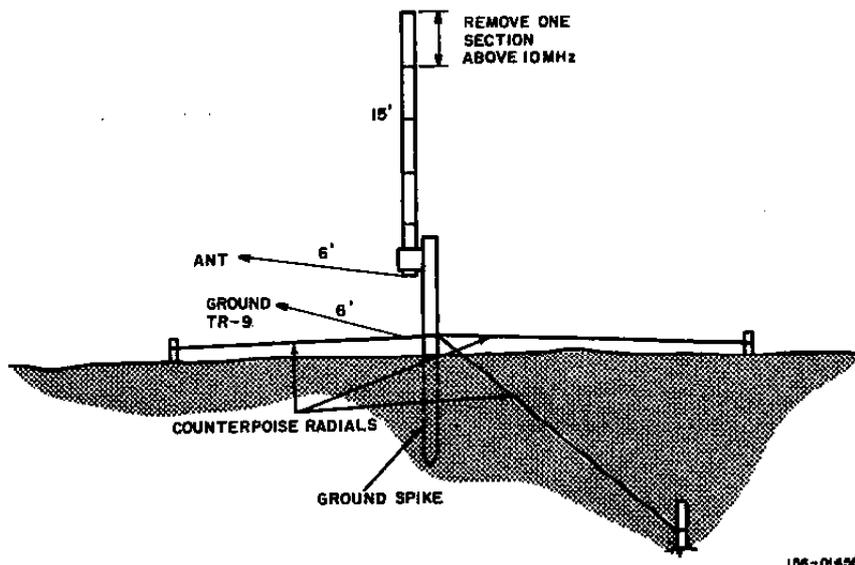

Figure 4-2. Fifteen-Foot Whip Antenna Installation.
**4-9. FIFTEEN-FOOT WHIP ANTENNA.** The whip antenna consists of a 15-foot whip, 6 feet of lead-in wire, and a counterpoise system. The antenna can be broken-down into lengths of 3-3/4 feet for easy transportation. The full 15-foot whip is used from 2 MHz to 10 MHz. One section is removed from the antenna above 10 MHz (see figure 4-2). Connect the antenna lead-in wire to the ANT terminal, and the counterpoise ground wire to the GROUND terminal. Operate the transmitter in the PH (phone) condition. To tune the antenna to the transceiver, ANT TUNE 2 switch S4 is set to position 2. ANT TUNE 1 control is then rotated to give a minimum reading on the meter when BAT/OPER/TUNE switch is in TUNE position. Press the microphone push-to-talk switch to allow a signal to be transmitted. The approximate settings indicated on the counter dial are provided in table 4-2, which lists readings for a typical location. However, considerable variations may be encountered, and the readings should be used as a general guide only. In certain circumstances, it may be necessary to set ANT TUNE 2 switch S4 to other settings to achieve a better match.